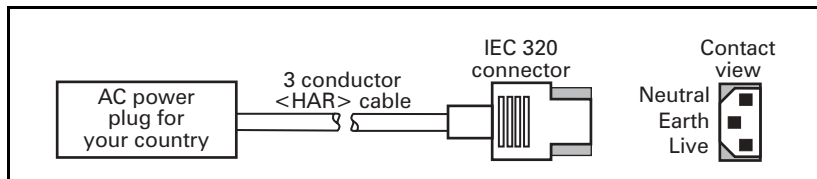

Figure 34
- The chassis ground (earth) **MUST** be connected to ensure safety and reduce electromagnetic interference. The ground connection is handled by the third wire (earth) in the power cord (see Figure 34).